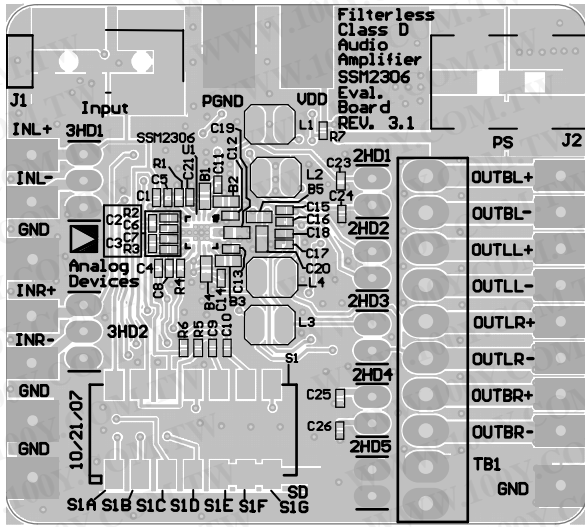
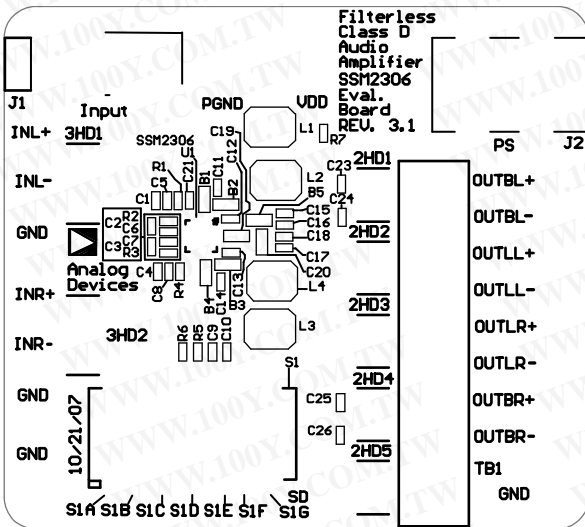
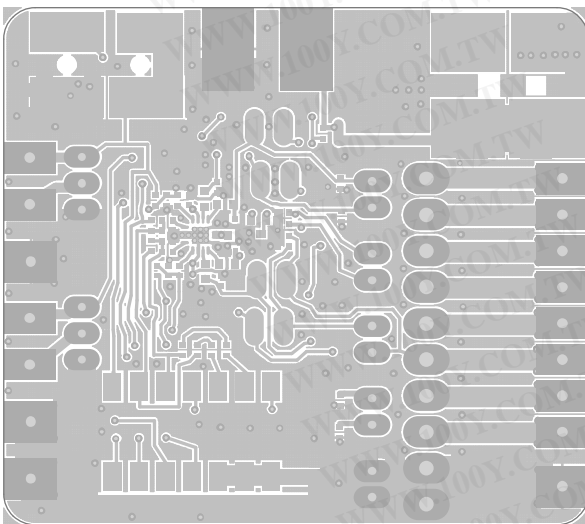

Figure 7. Top Silkscreen Layer with Other Top Layers
Figure 8. Top Silkscreen
Figure 9. Top Layers Without the Top Silkscreen Layer
- Decouple the input port nodes and the digital pins (Pin 3, Pin 4, Pin 5, Pin 8, and Pin 9) with small capacitors, such as 100 pF. These capacitors (C5, C6, C7, and C8) are not required, but they can lower the EMI from these pins. The ground terminals of these capacitors should be connected as close to the chip ground as possible (see Figure 7).
- Connect the GND pins, Pin 13 and Pin 16, to the thermal pad and place grounding vias, as shown in Figure 7, Figure 8, and Figure 9.